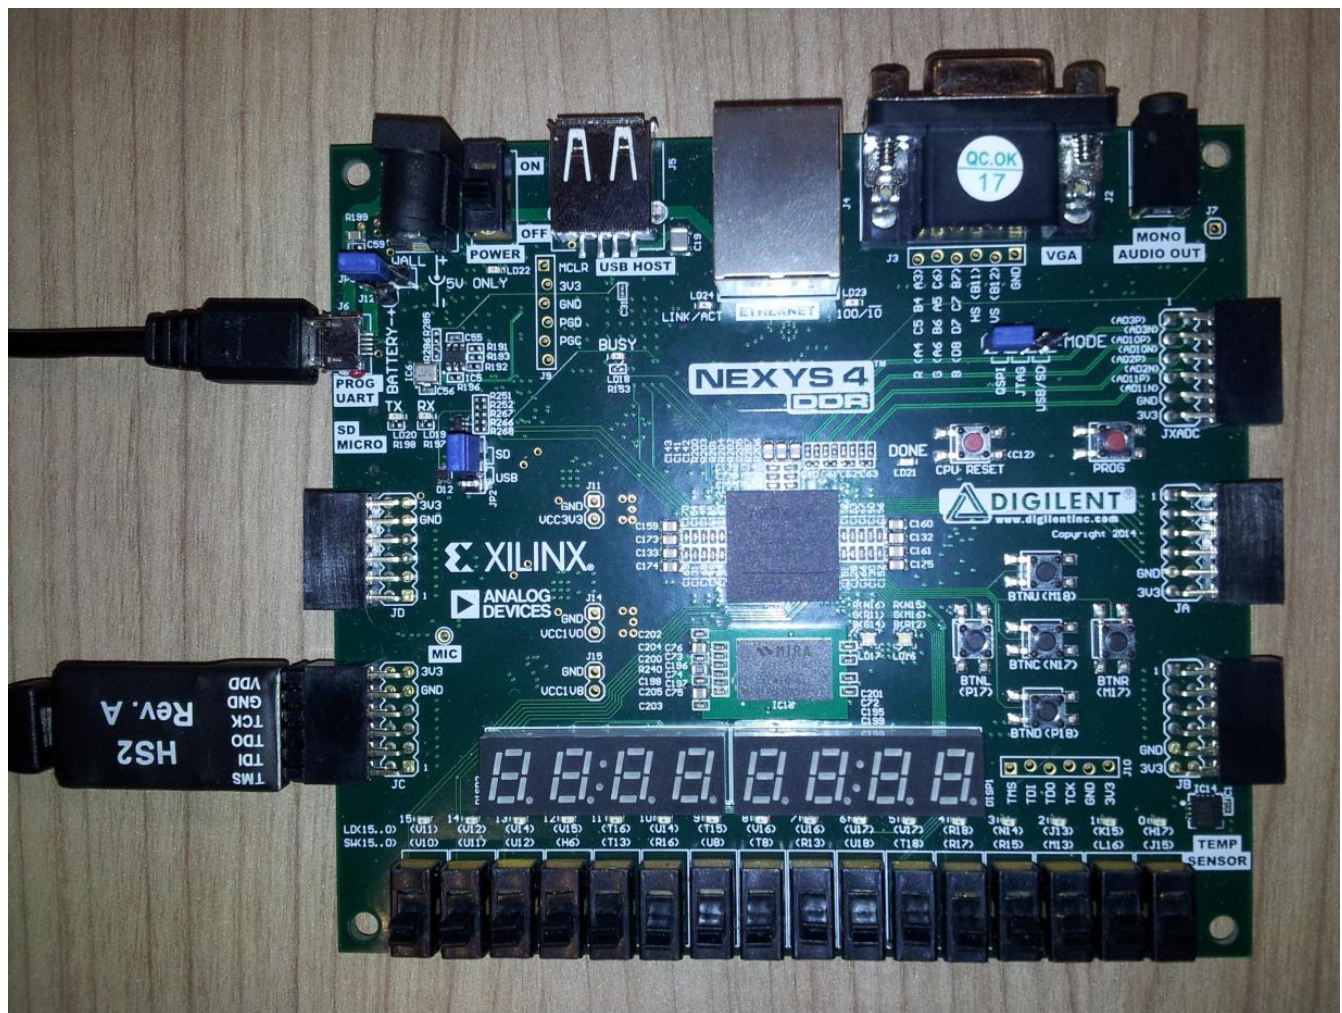

Figure 2. NEXYS4DDR Board with JTAG Cable Adapter
- Connection between JTAG Cable Adapter and JC PMOD connector on the NEXYS4DDR board. This could be done in different ways. Suggested variant is shown below in Figure 2.
SCR3 JTAG connection on the NEXYS4DDR board is shown in Figure 2.